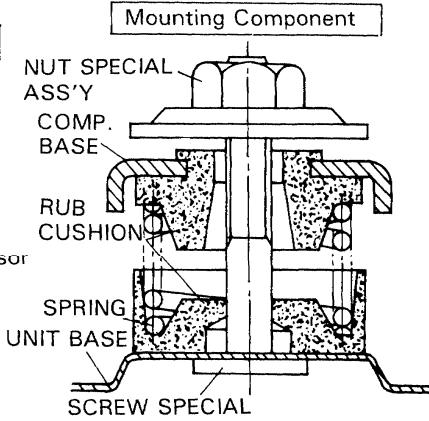

Fig. 21
* Be sure to save all mounting components with the replacement compressor for future use. Fig. 21.